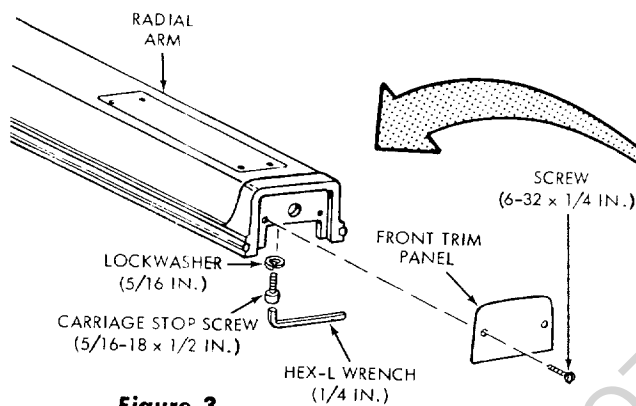

Figure 3
- Remove the front trim panel (figure 3) by removing two screws.
- Using a 1/4-inch, hex-L wrench, remove the carriage stop screw (figure 3) and lockwasher.
(See figure 3.)